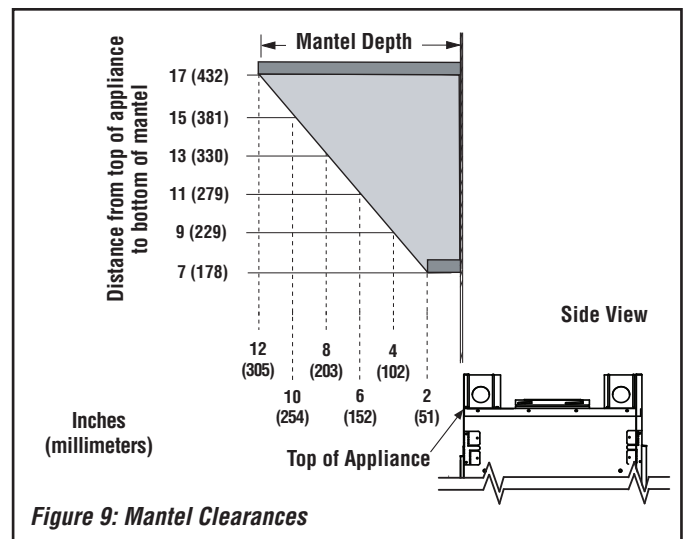

Figure 9: Mantel Clearances
- Vertical installation clearances to combustible mantels vary according to the depth of the mantel (see **Figure 9 on Page 11**).
Vertical installation clearances to combustible mantels vary according to the depth of the mantel (see **Figure 9**). Mantels constructed of non-combustible materials may be installed at any height above the appliance opening.